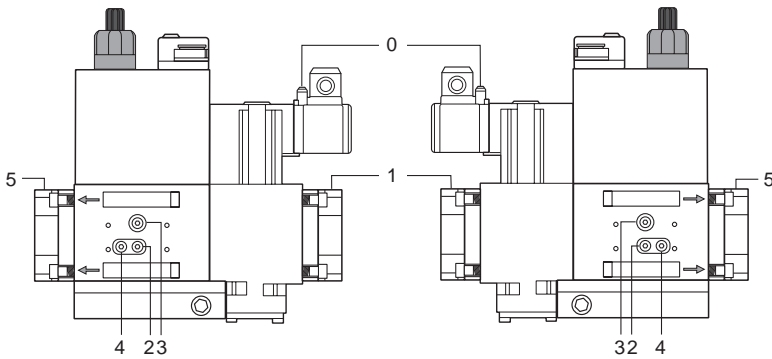
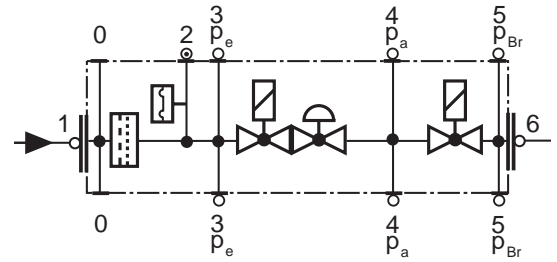

Fig. 26
Fig. 27
- Change the filter if the pressure difference between pressure connection 1 and 2 (Fig. 26-Fig. 27) $\Delta p > 10$ mbar.
- Change the filter if the pressure difference between pressure connection 1 and 2 (Fig. 26-Fig. 27) is twice as high compared to the last check.